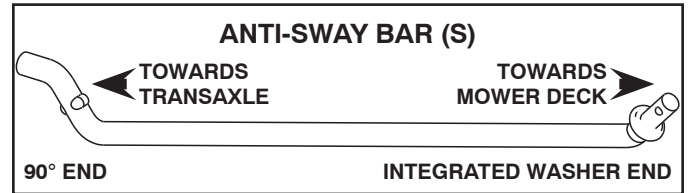

Fig. 28
5. INSTALL ANTI-SWAY BAR (S) (IF EQUIPPED) (See Fig. 28 - 30)